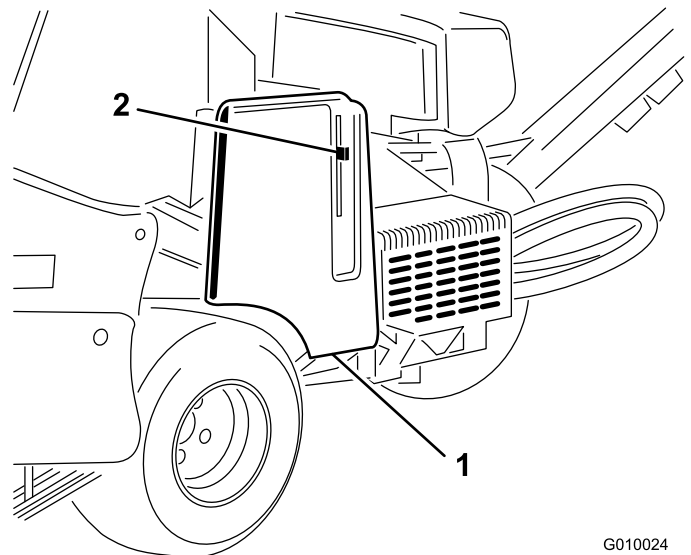
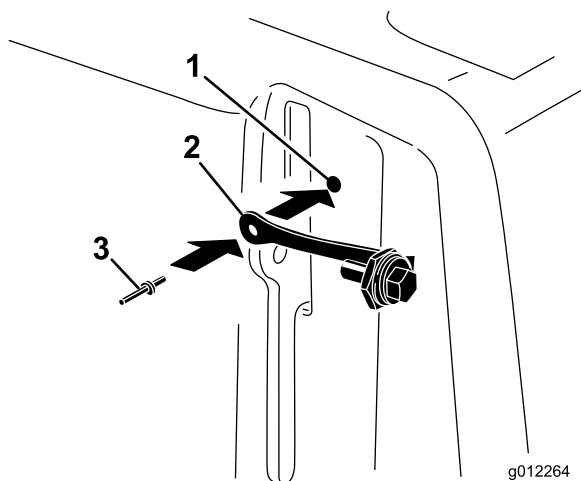

Figure 9
Figure 10
1. Locate the hole in the belt cover next to the latch lever (Figure 9 and Figure 10).
2. Using the hole in the belt cover, install the lanyard assembly with a pop rivet (Figure 10).